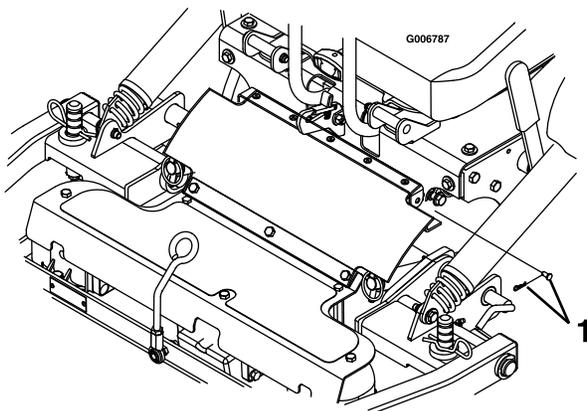

**Figure 70**
7. Remove the lynch pins at front of push arms on both sides of the machine (Figure 70).
6. Secure the push arms with the lynch pins on the left and right sides of the machine (Figure 70).